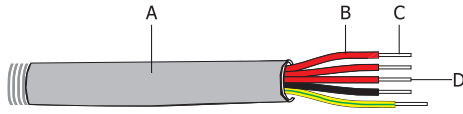

**Figure 4.3-2 Ac breaker connection**
1. On the AC side, the individual breaker should be connected between inverter and Grid but before loads. See Figure 4.3-2.